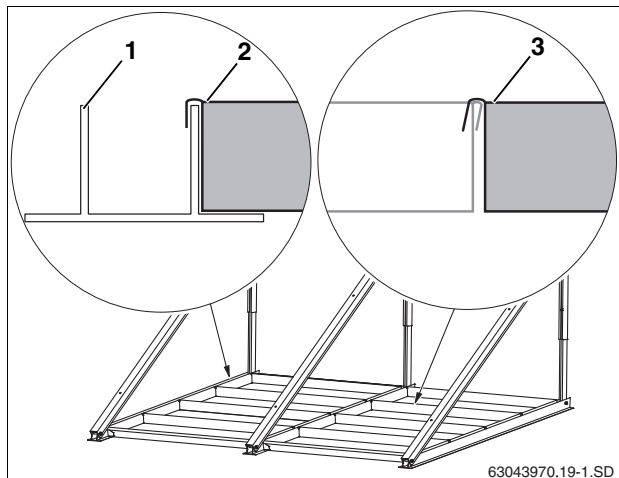

Fig. 27 4 loading trays per collector
- ▶ Place ballast trays (Fig. 27, [2]) into lower profiles (Fig. 27, [1]) and into each other (Fig. 27, [3]).